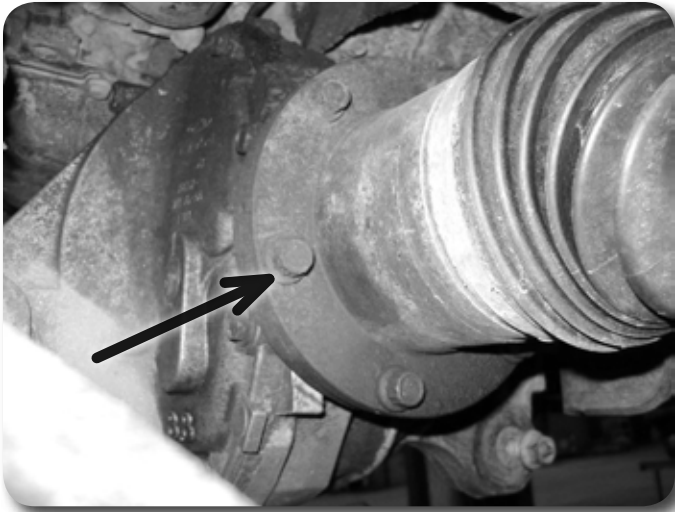

Figure 8
24. Remove the six bolt mounting the CV axle to the differential. **Figure 8** Remove axle.